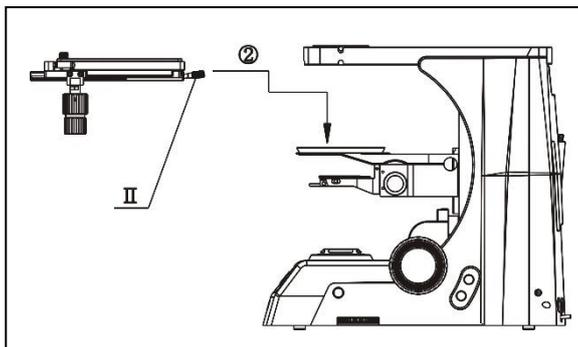

Fig.3
### 4-2-2 Mechanical carrier stage equipment installation (Fig.3)
- ★ The mechanical carrier stage is installed along the path of ramp in Fig.3. Firstly, the hole center of the stage is roughly aligned with the center of the support circle, and then the stage is placed on the positioning ring of the support.
- ◇ After the stage is placed stable, tighten the screw of II with universal wrench in Fig.3, so that the stage can't rotate and shake.